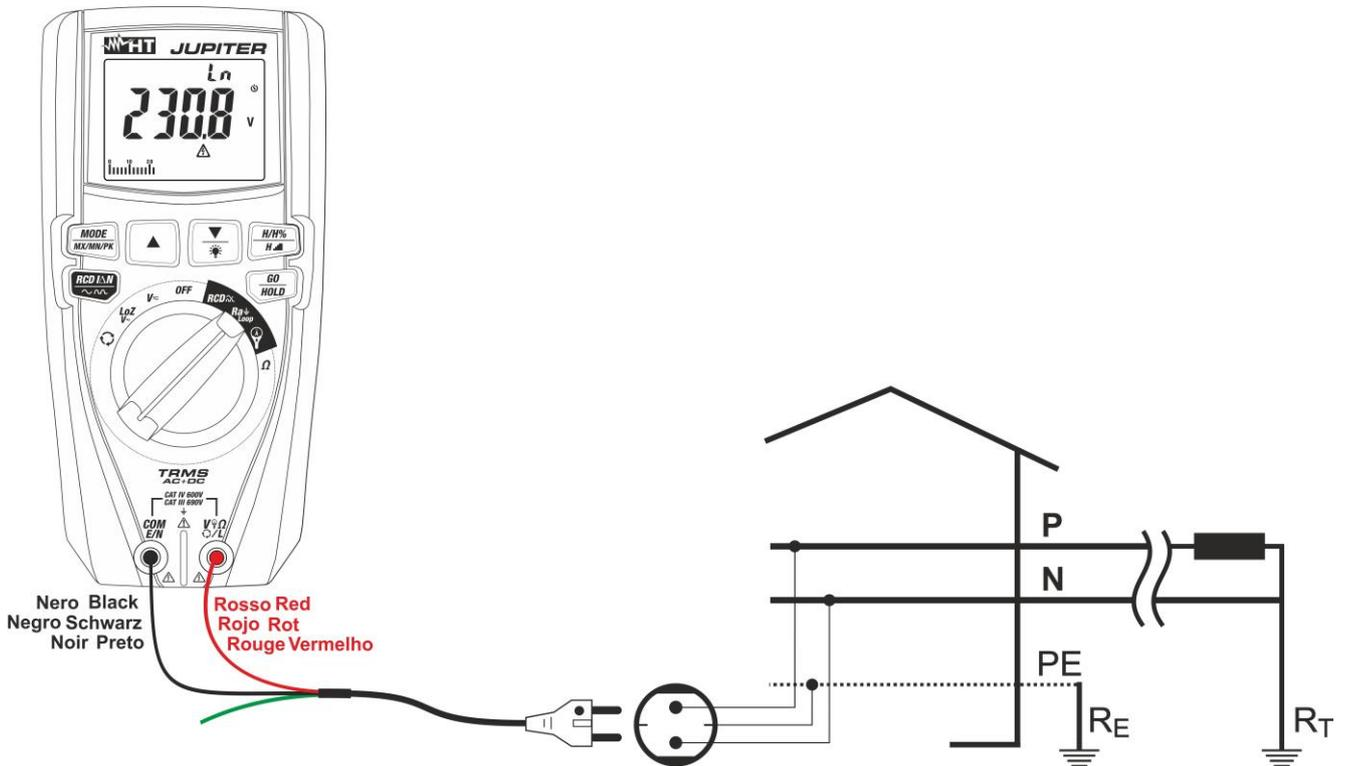

Fig. 25: Use of the instrument for measuring Loop L-N impedance with cable provided with Schuko plug
7. **For Loop L-N measurements**, in case the cable with Shuko plug is used, insert the red conductor into input terminal **V Ω L** and the black conductor into input terminal **COM/E/N** and connect the instrument to the system to be tested (see Fig. 25). The value of phase-to-neutral voltage is shown on the display